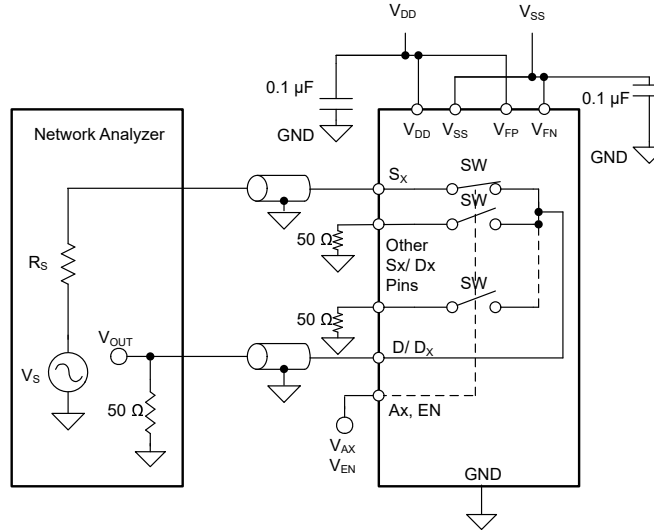

Figure 6-16. Bandwidth Measurement Setup
Bandwidth (BW) is defined as the range of frequencies that are attenuated by < 3 dB when the input is applied to the source pin (Sx) of an on-channel, and the output is measured at the drain pin (D) of the TMUX582F-SEP. Figure 6-16 and Equation 3 shows the setup used to measure bandwidth of the switch.